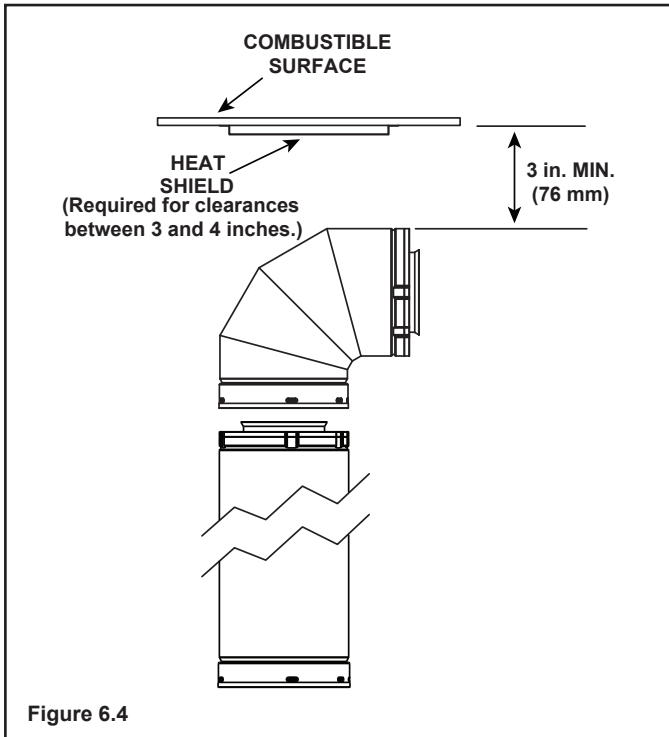

Figure 6.4
1. The heat shield is required above the first elbow if the clearance to combustible surface above is between three (3) and four (4) inches. A shield is not required for clearances greater than four inches. See Figure 6.4.
- Horizontal terminations are measured to the outside mounting surface (flange of termination cap) (see Figure 6.4).